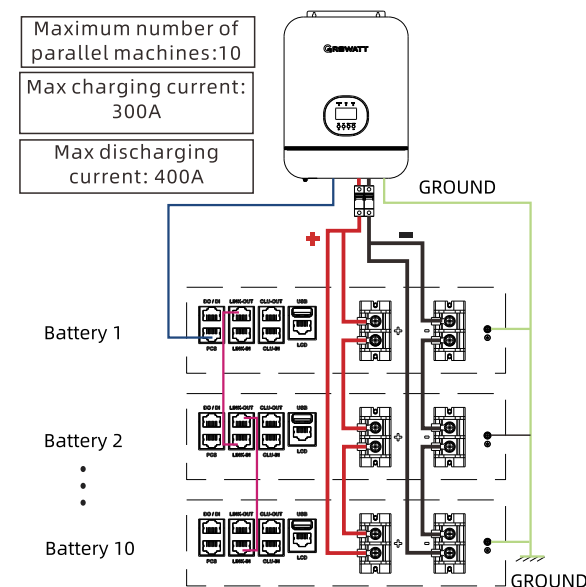

Figure 14: Capacity Expansion Installation Diagram
- 2) Refer to Figure 14 for power cable wiring.